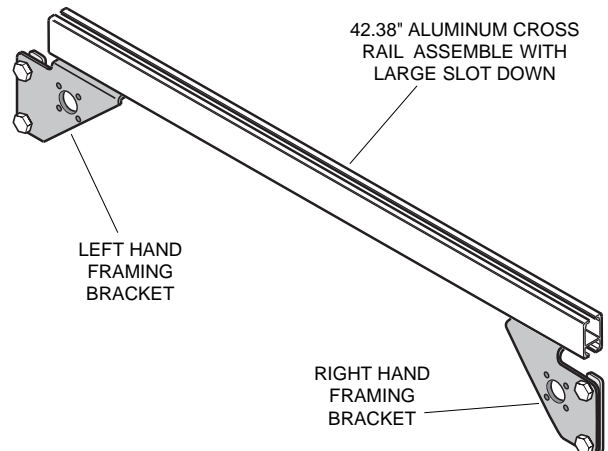

Figure 5.
- Locate remaining four 42.38" long cross rails, four left hand framing brackets and four right hand framing brackets. Assemble framing brackets to cross members. Finger tighten (Fig. 5).